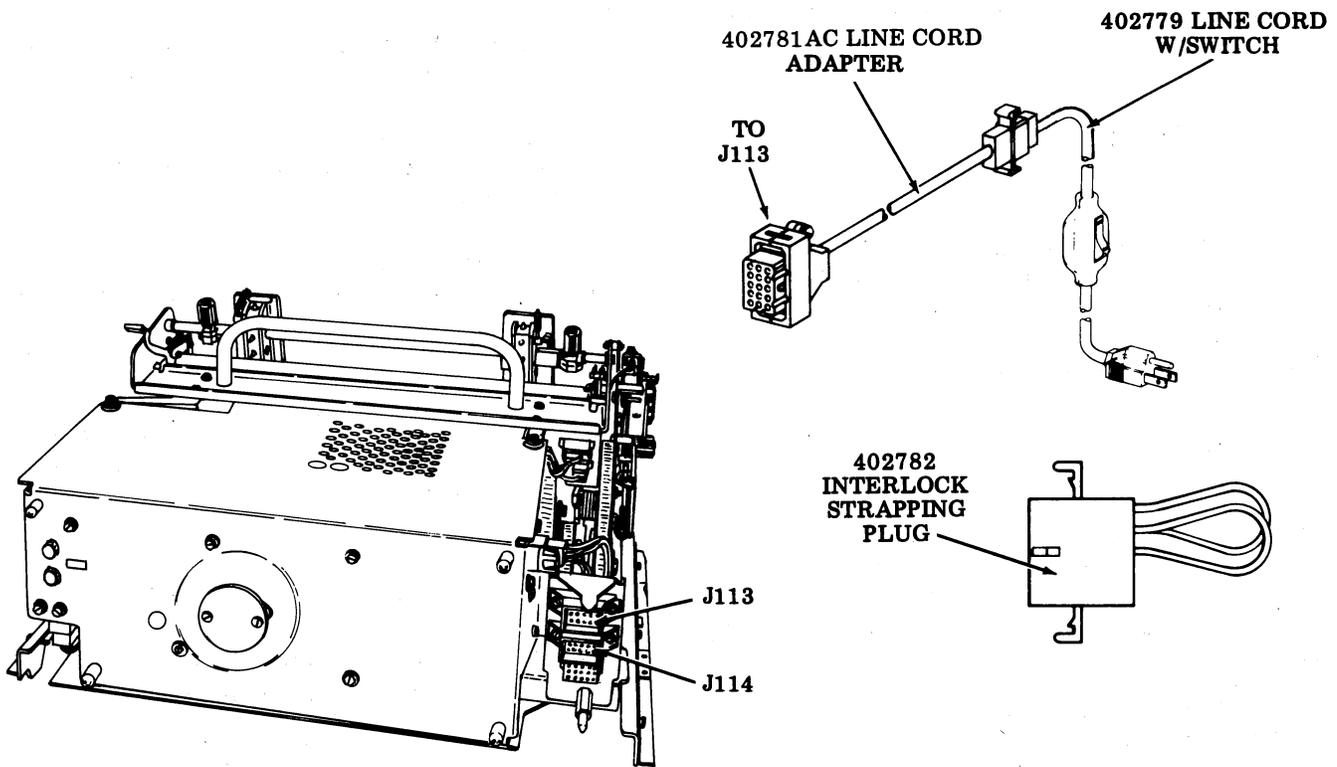

Fig. 2—80- and 132-Column Tractor Feed Printers
3.17 Refer to Fig. 2 for hookup for running the printer outside the cabinet.